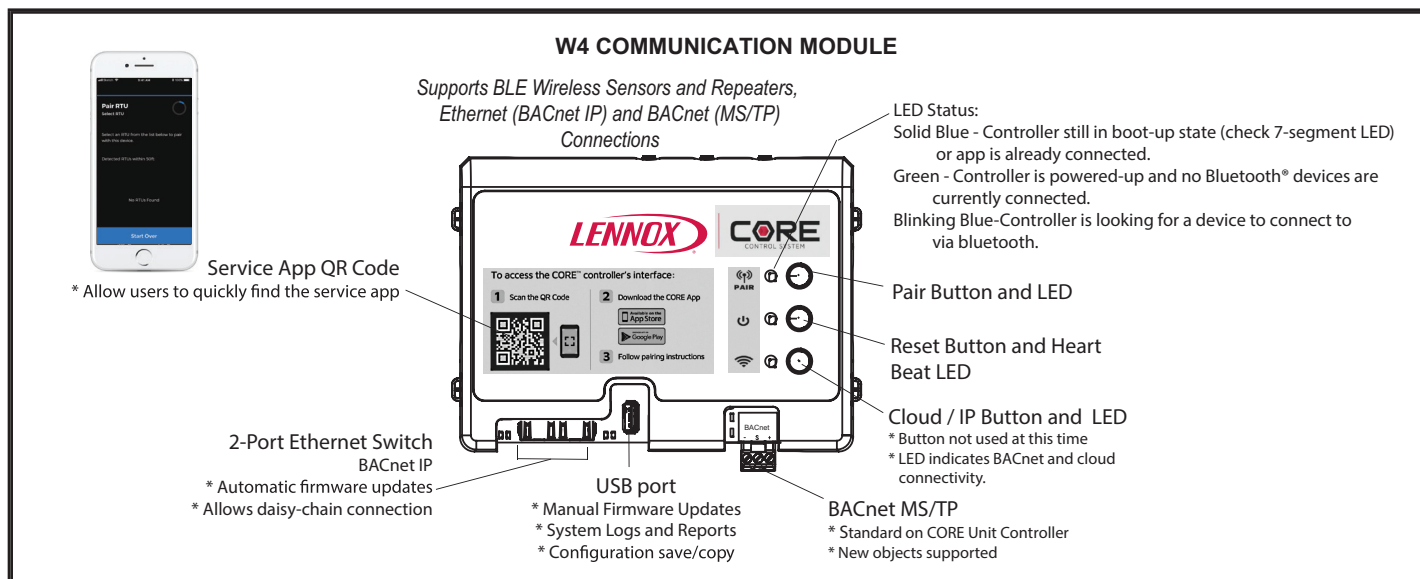

FIGURE 17
- 2 - Press and hold the pair button for five seconds. See FIGURE 17.